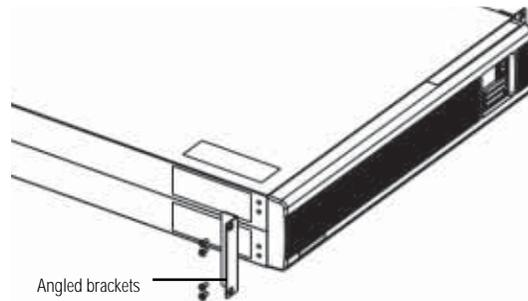

Fig. 8: Attaching Angled Brackets (700, 1000, 1500 models)
- Place four (4) of the #6-32 screws provided through the four round single holes in each bracket on each side (fig. 8). Use all eight (8) #6-32 screws provided for the ON2000 UPS on each side.